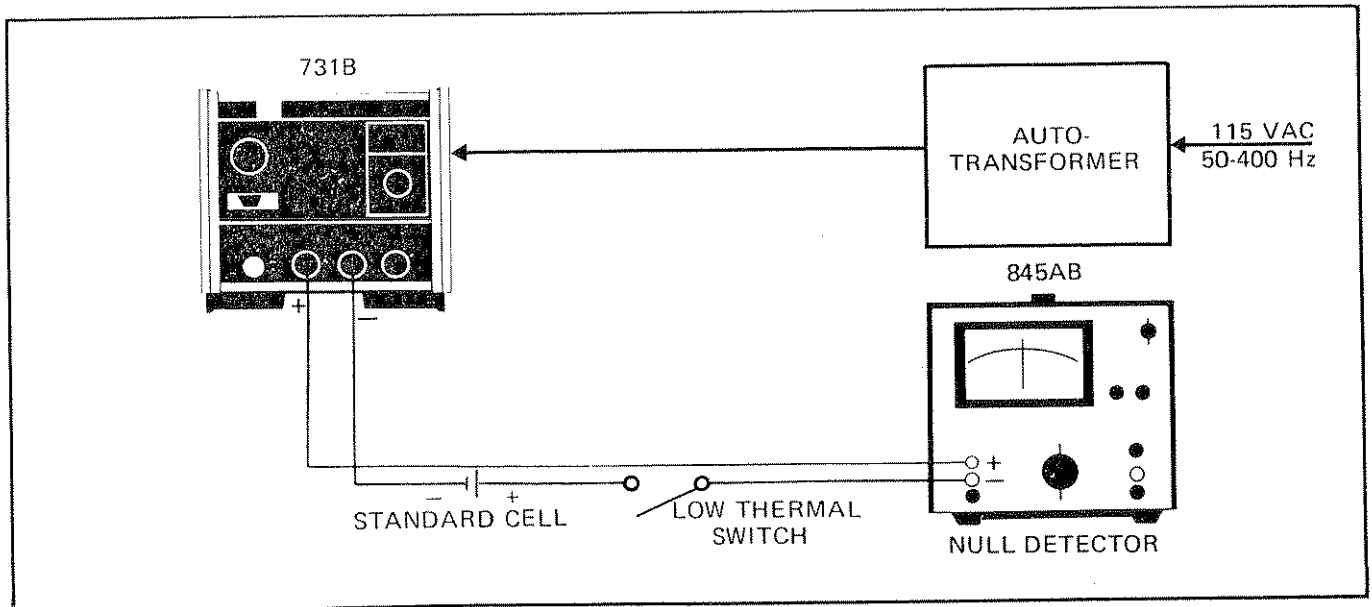

Figure 4-2. EQUIPMENT CONNECTIONS FOR LINE REGULATION, DC TO 1 Hz OUTPUT NOISE, AND TRANSFER ACCURACY TESTS.
- a. Connect equipment as shown in Figure 4-2.